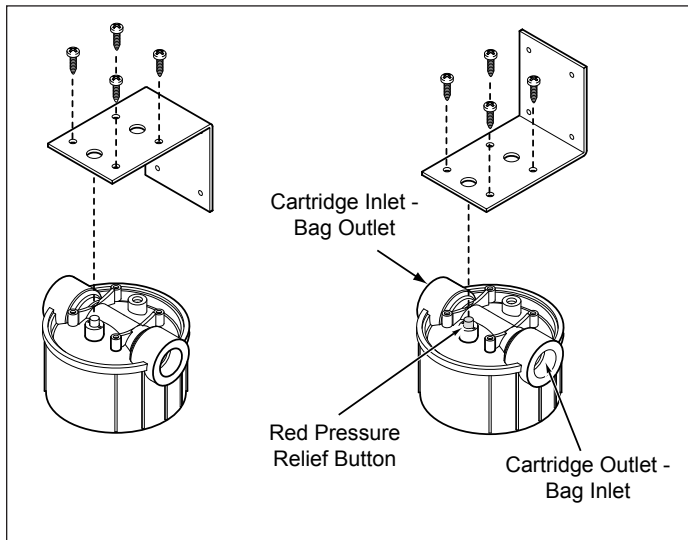

Figure 2. Mounting Bracket Position
- The mounting bracket supplied with the system can be mounted either up or down (Figure 2). The bracket comes with screws for attaching the bracket to the TAC Housing Head. These special thread-forming screws should only be used for mounting the head to the bracket.
- The TAC Housing Head can be mounted with the inlet on the left or on the right. When the inlet is on the left, the Red Pressure Relief Button is at the front. Consult the top of the TAC Housing Head and note that the inlet connection is labeled "Cartridge Inlet – Bag Outlet" (Figure 2).
- The inlet water should only be connected to the "Cartridge Inlet–Bag Outlet" port on the TAC Housing Head. The filtered water should only be connected to the "Cartridge Outlet – Bag Inlet" port on the TAC Housing Head. See Figure 2.
3. To help remove trapped air from the TAC housing, press and hold the Red Pressure Relief Button on the top of the housing until water just begins to come out then release the button. See Figures 2 and 3.